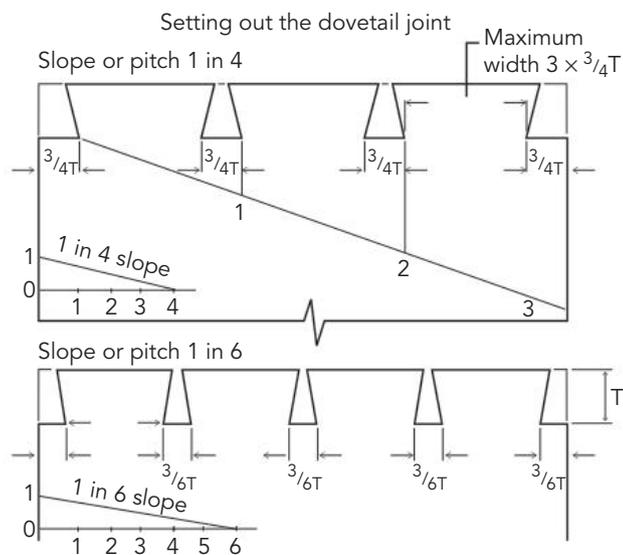

Figure 7.11 Suggested standard proportions for common dovetail joint
- 3 Allow spacing between pins not more than three times the widest part of the pin (Figure 7.11).